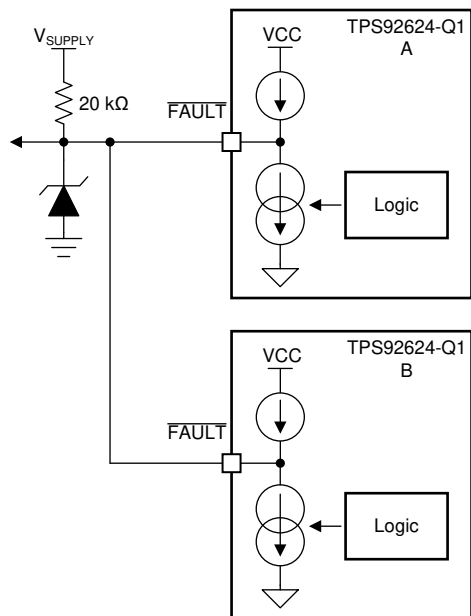
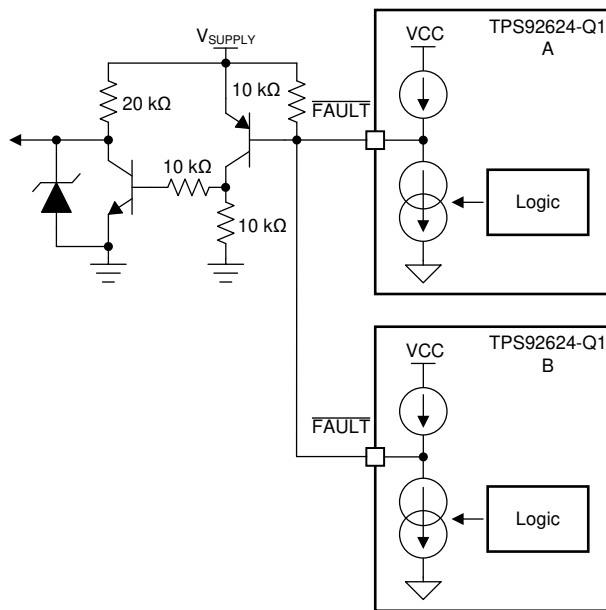

Figure 7-6. FAULT Bus for One-Fails-All-Fail Application
Figure 7-7. FAULT Bus for One-Fails-Others-On Application
Based on this feature, the TPS92624-Q1 device is able to construct a FAULT bus by tying FAULT pins from multiple TPS92624-Q1 devices to achieve one-fails-all-fail function as Figure 7-6 showing. The lower side TPS92624-Q1 (B) detects any kind of LED fault and pulls low the FAULT pin. The low voltage on FAULT pin is detected by upper side TPS92624-Q1 (A) because the FAULT pins are connected of two devices. The upper side TPS92624-Q1 (A) turns off all output current for each channel as a result. If the FAULT pins of each TPS92624-Q1 are all connected to drive the base of an external PNP transistor as illustrated in Figure 7-7, the one-fails-all-fail function is disabled and only the faulty channel device is turned off.